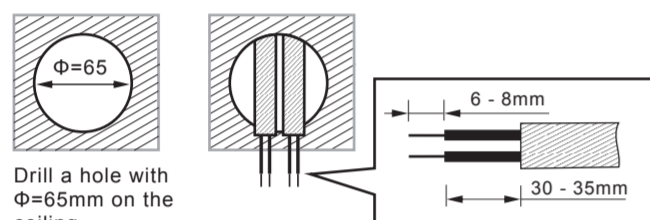

FIG.10
4.4.2.1 To install detector, please drill a hole with diameter of 65mm on ceiling board and keep the power cable out-side. Please strip off 6 - 8mm of cable sheathing for wiring (See FIG.10).